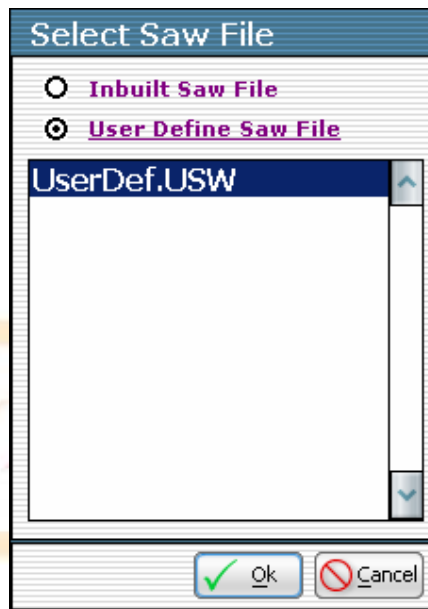

Figure 17: Saw File Selection Form
- i) Click on Saw File Select button . It will take you to Select saw file form. (See figure 17)